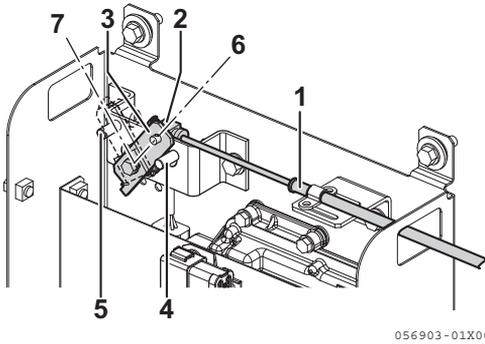

Figure 7
1. To adjust, loosen the adjustment screw (Figure 7, (2)) for the remote control cable in the ECU box and adjust.
2. Adjust the low-speed stop position (Figure 7, (7)) first and then adjust the high-speed stop position (Figure 7, (6)), with the adjustment screw on the remote control lever (Figure 7, (3)).